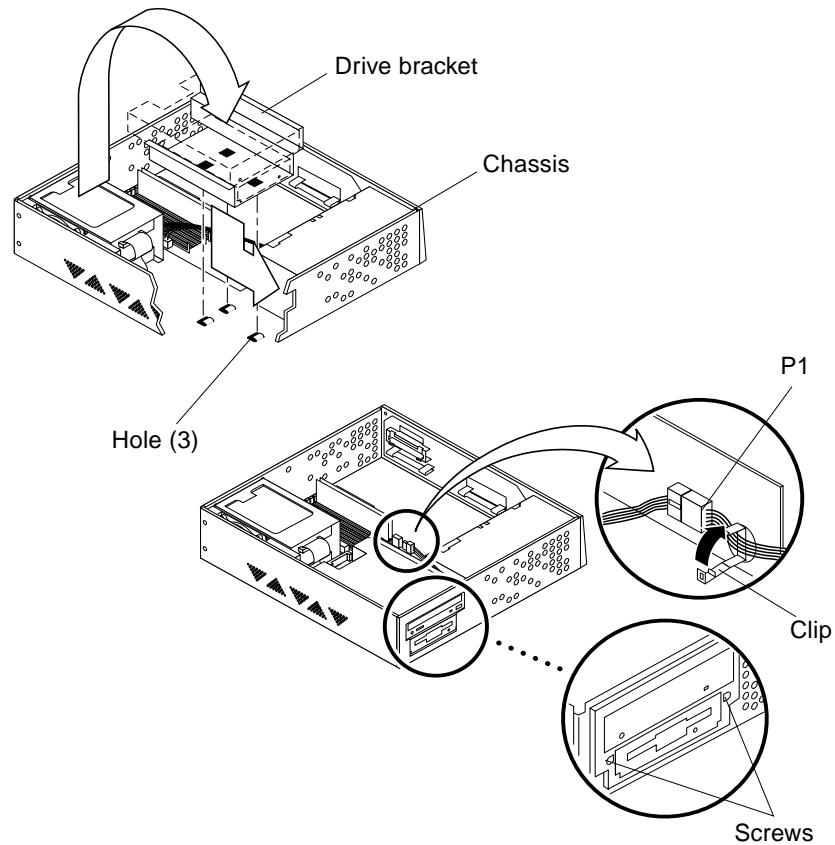

Figure 2-14 Positioning the Drive Bracket in the Chassis
3. Slide the bracket toward the opening in the side of the chassis (Figure 2-14).